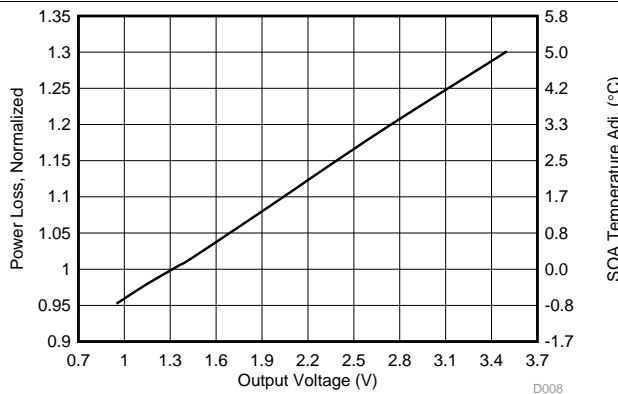

Figure 7. Normalized Power Loss vs. Output Voltage
- Normalized Power Loss for output voltage ≈ 1.01 (Figure 7)
- SOA adjustment for output voltage $\approx 0.17^\circ\text{C}$ (Figure 7)